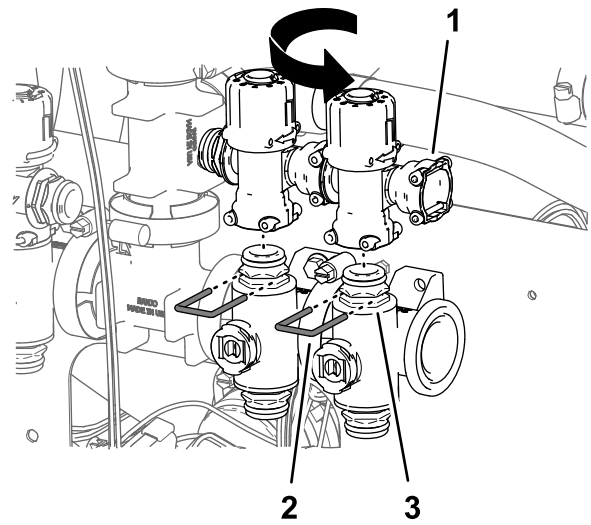

Figure 103
- Repeat steps 5 through 7 for the bypass valves of nozzle valve 6 and nozzle valve 7 (Figure 103).